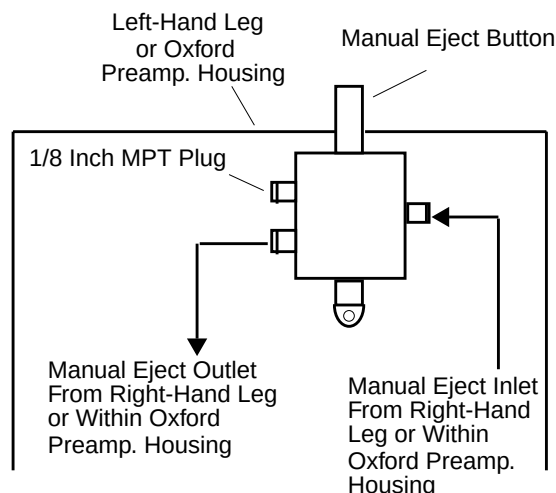

Figure 4. Manual Eject Valve
3. Connect the MANUAL EJECT inlet tubing to the left-leg manual eject valve, and connect the MANUAL EJECT outlet tubing to the manual eject valve outlet (see Figure 4).